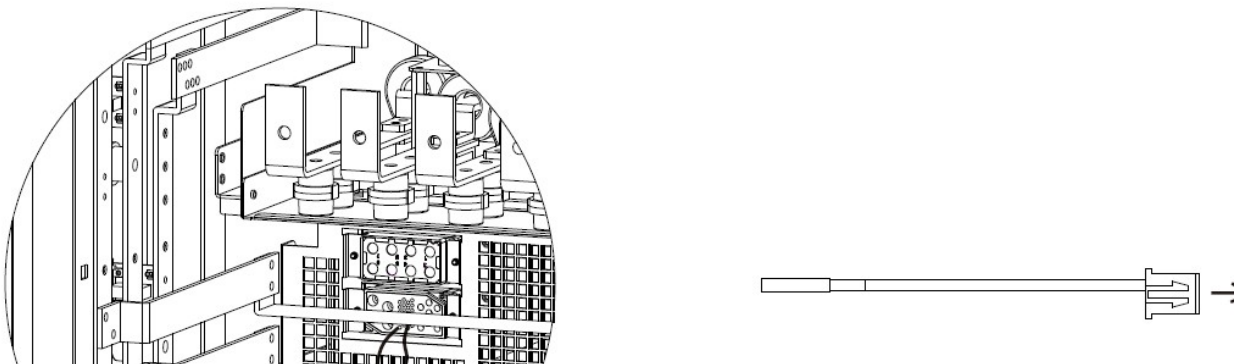

Figure 9-3
3. Please confirm if the two steps above have been completed correctly, and then for the rack2, please plugin the connector, refer to the below Figure 9-3